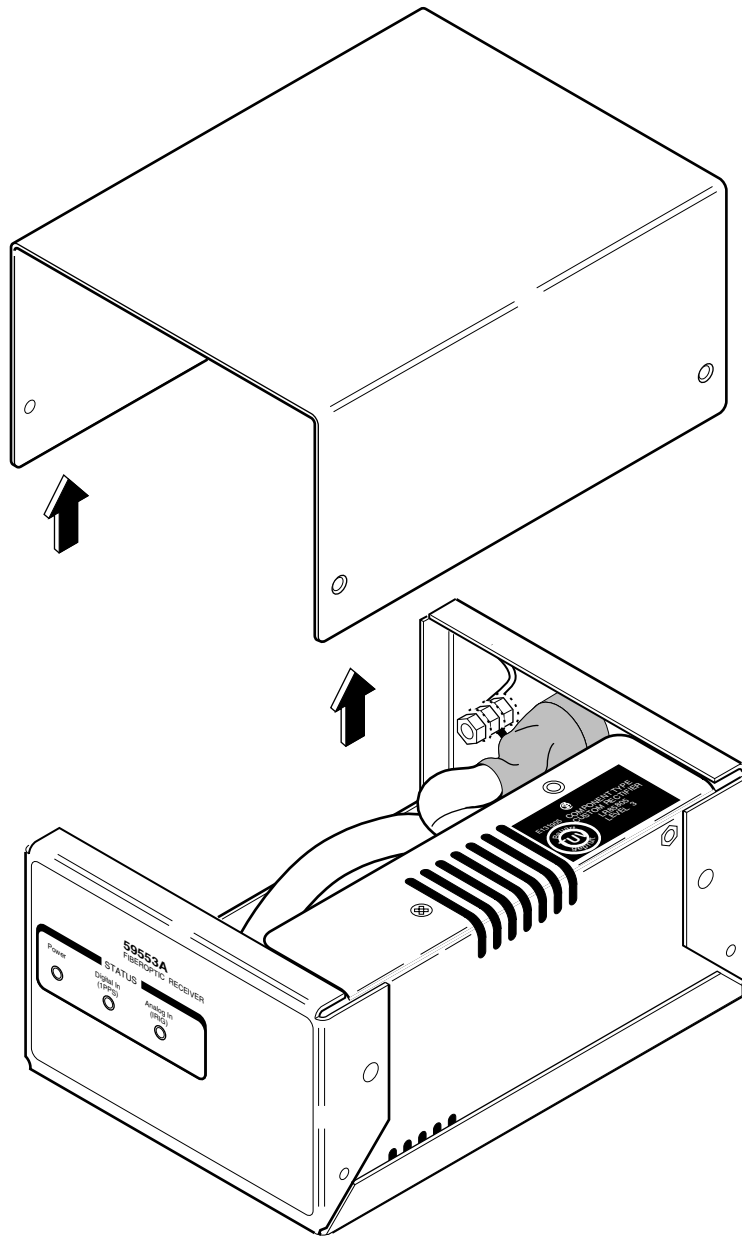

Figure 2-4. Removing the Cover (59553A)
- 3** Lift cover off the 59553A as shown in Figure 2-4.